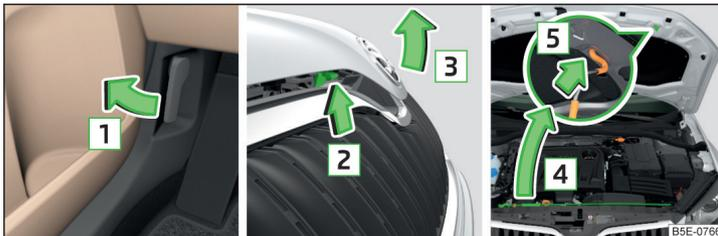

Fig. 158 Opening the bonnet
- Pull the release lever underneath the dash panel in the direction of the arrow **1** » Fig. 158.
Never open the bonnet by the locking lever » Fig. 158.